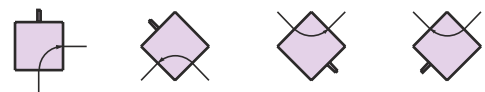

Figure 12
**The 3-way N.O. valve in figure 12 is the same regardless of how it is oriented or whether the outlet is to the right or left. Free orientation of symbols allows clarity in drawing circuits, minimizing design time spent on layout and in drawing.**